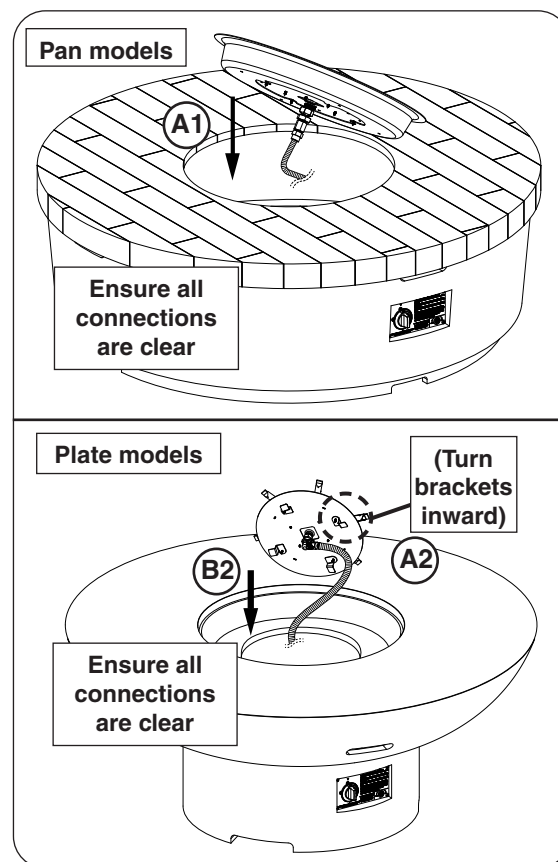

Fig. 37-2 Install burner assembly
1. For models with a burner that hangs above the table top, simply drop the burner in place (see Fig. 37-2, A1).
For models with a burner that fastens in place, ensure that the four burner brackets are turned inward, then insert the burner assembly (see Fig. 37-2, A2-B2).